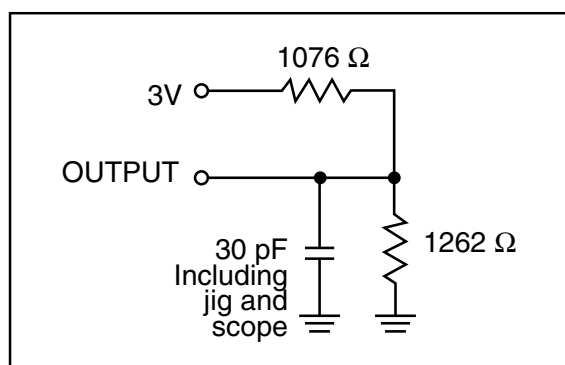

Figure 1.
Output Load	See Figures 1 and 2
1. Test conditions assume signal transition times of 5 ns or less, timing reference levels of 1.5V, input pulse levels of 0 to 3V and output loading specified in Figure 1.